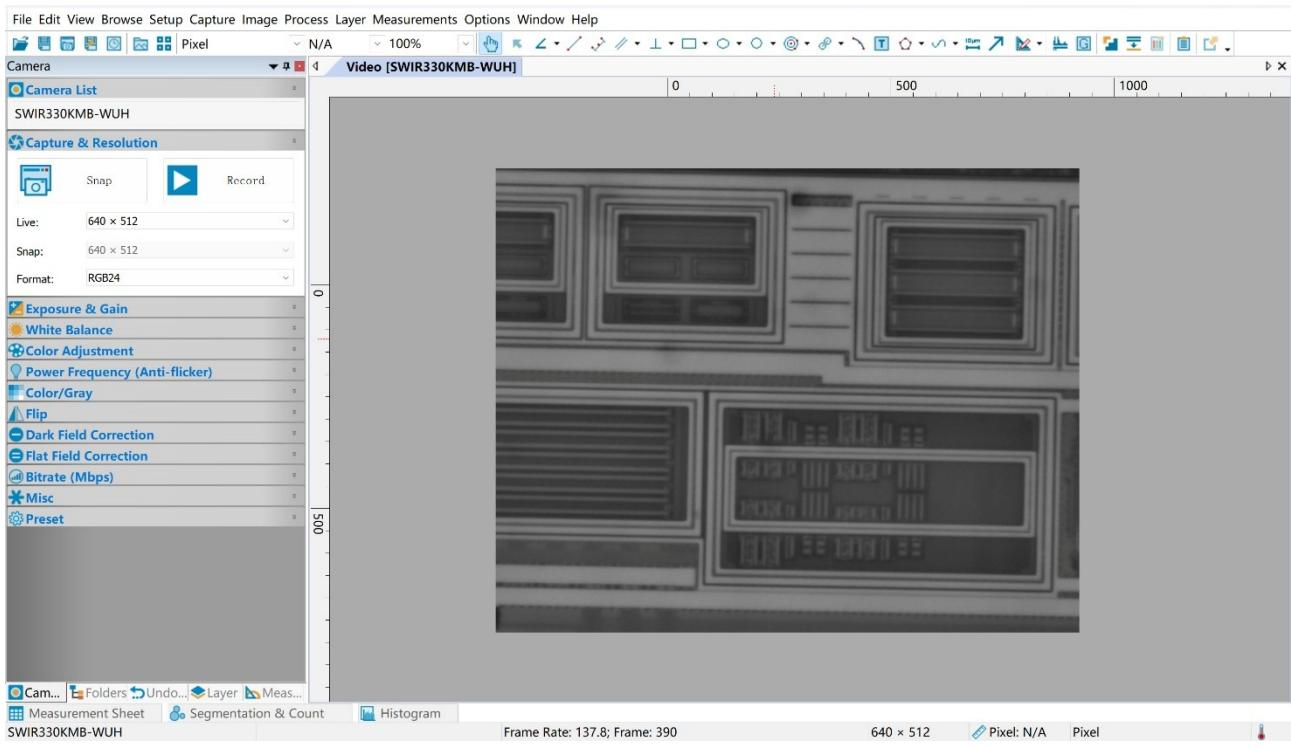

Figure 7 EHDView and EHD330KMB-WUH Camera in USB Mode
- Install EHDView/EHDLite on your PC or install EHDView App on the mobile device; Run the software EHDView/EHDLite, clicking the camera name in the camera list to start the live video as shown in Figure 7.